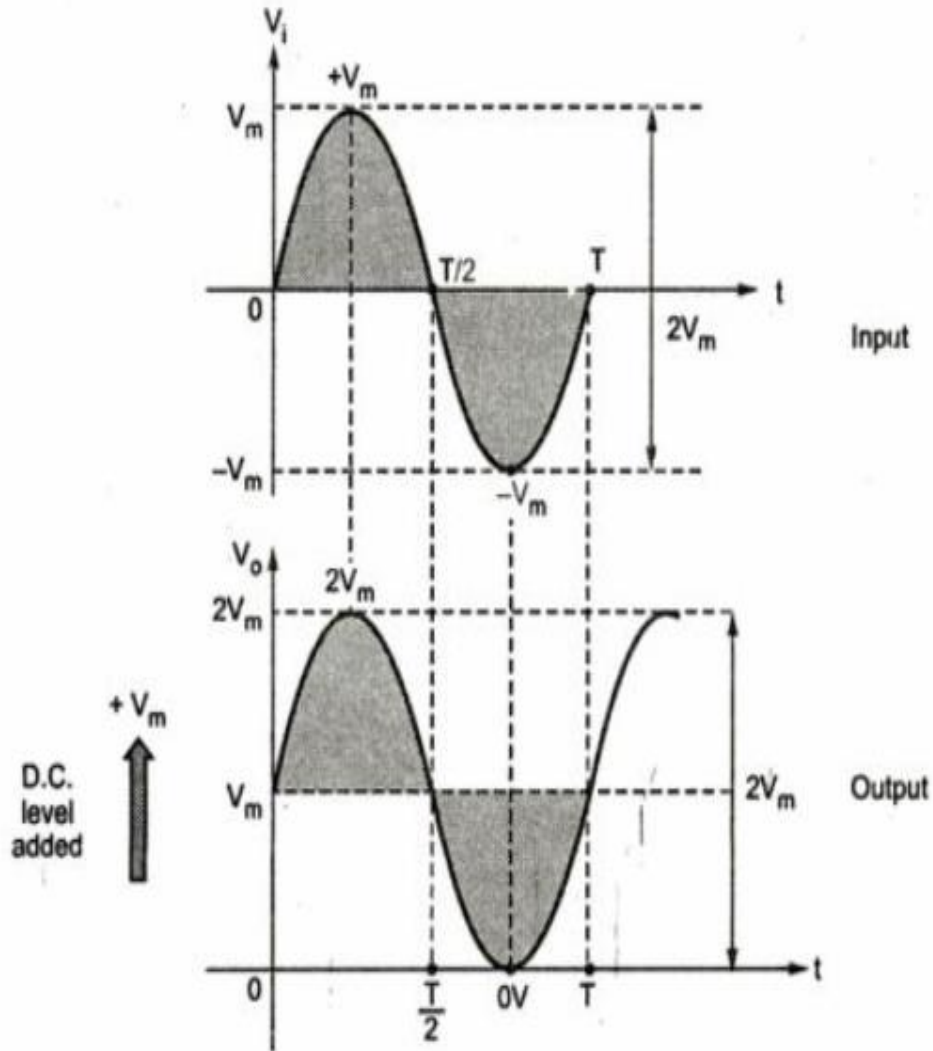

Fig. 2.30 Positive clamper waveforms
- Assuming ideal diode, the input and output waveforms are shown in the fig. 2.30.